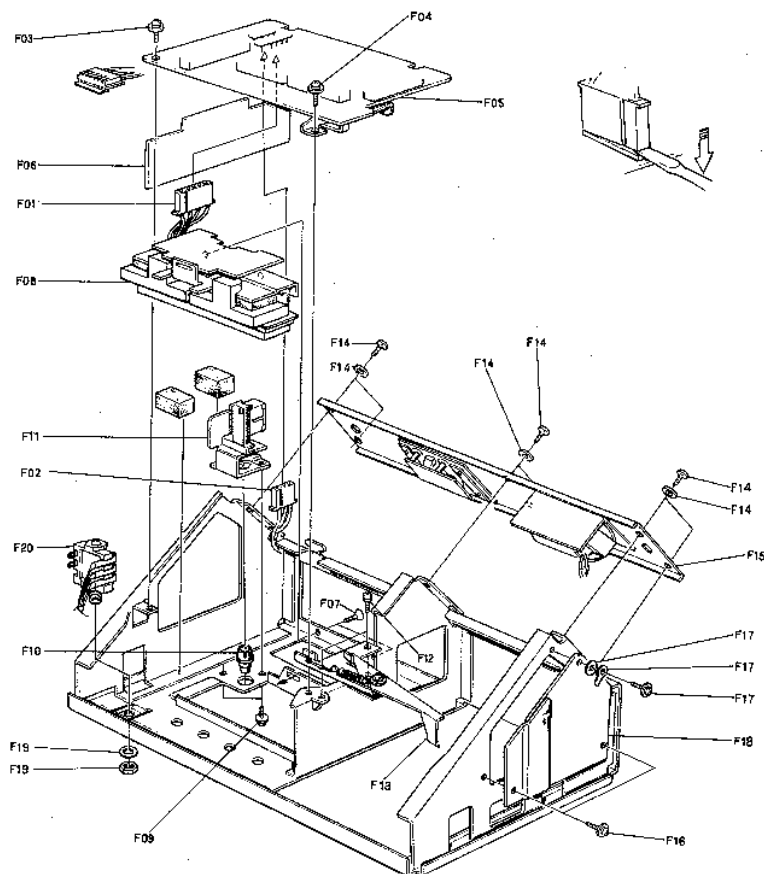

Fig. 3.12
Refer to Fig. 3.12. Remove front control ass'y referring to item 3.7. Remove F01 through F04, then F05 (main P.C.B. ass'y).
Refer to Fig. 3.12. Remove main P.C.B. ass'y referring to item 3.18. Unplug F06 (Dolby NR P.C.B. ass'y) from main P.C.B. ass'y.
Refer to Fig. 3.12. Remove front panel ass'y referring to item 3.5. Remove F07 and F08 (meter ass'y)
Refer to Fig. 3.12. Remove main P.C.B. ass'y referring to item 3.18. Remove F09 through F11 (power switch ass'y)
Refer to Fig. 3.12. Remove main P.C.B. ass'y referring to item 3.18. Remove F12 and F13 (record link ass'y).
Refer to Fig. 3.12. Remove cabinet referring to item 3.1. Remove F14 and F15 (rear panel ass'y).
Refer to Fig. 3.12. Remove cabinet referring to item 3.1. Remove F16 through F18 (power supply P.C.B. ass'y).
Refer to Fig. 3.12. Remove cabinet referring to item 3.1. Remove F19 and F20 (headphone jack).